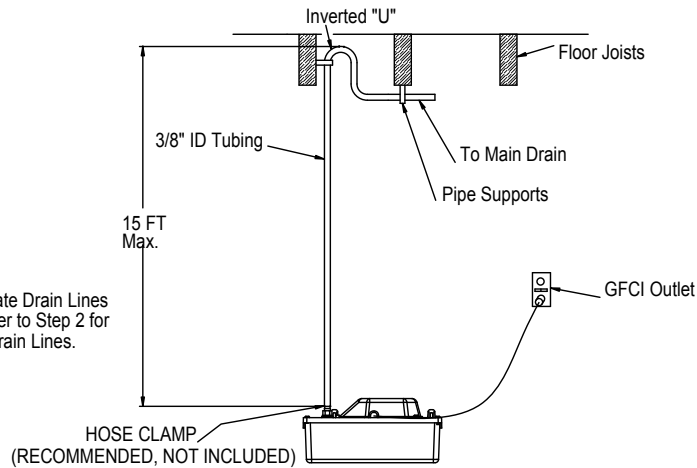

Figure 3.1
- 3.1) Extend the discharge pipe, from the barbed check valve, to the highest point possible. Refer to Figure 3.1